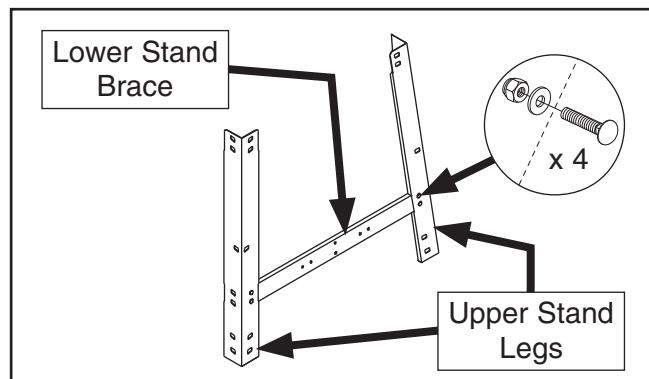

Figure 8. Upper stand legs attached to lower stand brace.
1. Connect (2) upper stand legs and (1) lower stand brace with (4) $\frac{5}{16}$ "-18 x $\frac{3}{4}$ " carriage bolts, $\frac{5}{16}$ " flat washers, and $\frac{5}{16}$ "-18 hex nuts (see **Figure 8**).
IMPORTANT: Be sure to build frame using bolt holes indicated in **Figures 8–10** and **21**. Machine will not fit correctly on frame if wrong holes are used and you will need to rebuild frame.